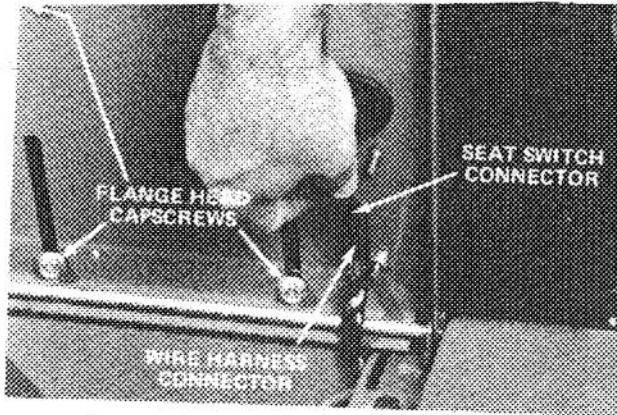

Figure 6
4. Lift seat mount plate, hold seat and spacers in position and install flange head capscrews (Fig. 6).
5. Insert seat switch connector into wire harness connector (Fig. 6).